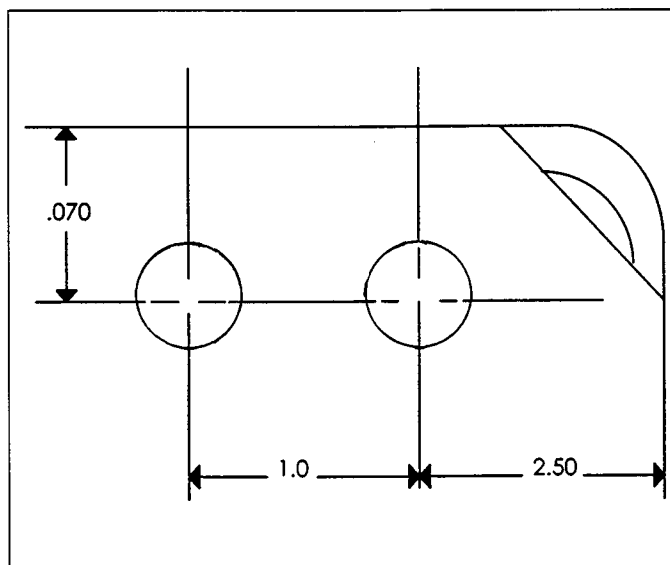

Fig. 3-6. Terminal Block Mounting Hole Pattern
Drill and tap two (2) holes for the  $\frac{5}{16}$  - 18 nuts. See Fig. 3-6 for hole locations.